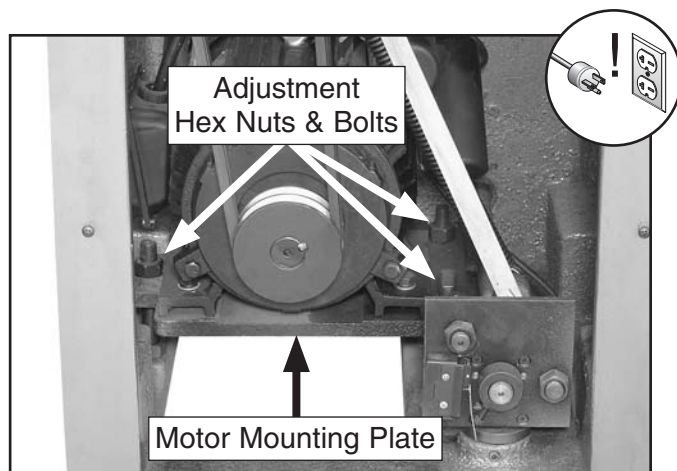

Figure 81. Motor adjustment hex nuts and bolts.
3. Refer to **Figure 81** to help identify the locations of the three motor adjustment hex nuts and bolts.